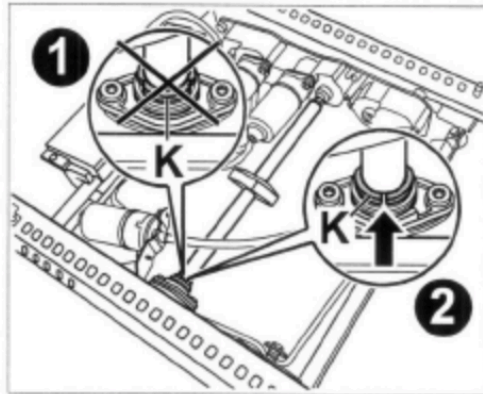

Figure 9
- 10 Move the seat rail **backwards until** the slit on the white plastic bushing (⇒ *Figure 9-inset 1 and 2, item K-*) is **easily accessible** (⇒ *Figure 9-inset 2, arrow-*).